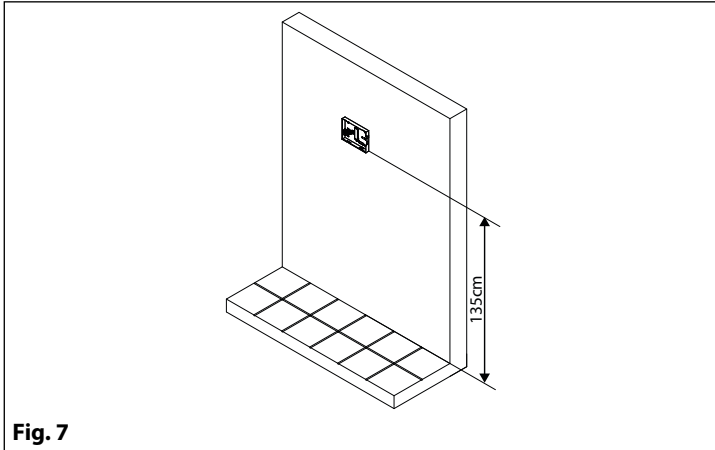
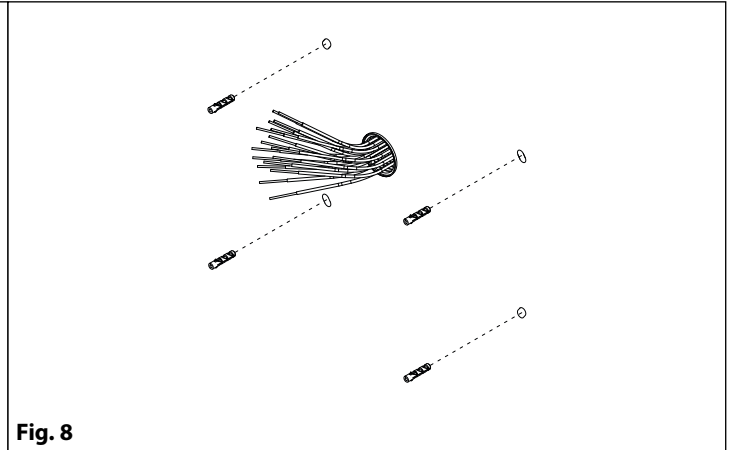

Fig. 7
Fig. 8
2. As shown in **Fig. 7**, place the videointercom back cover against the wall at 135cm height from the floor and mark the fixing holes. Make the holes (5mm diameter) and insert the provided wall plugs as shown in **Fig. 8**;